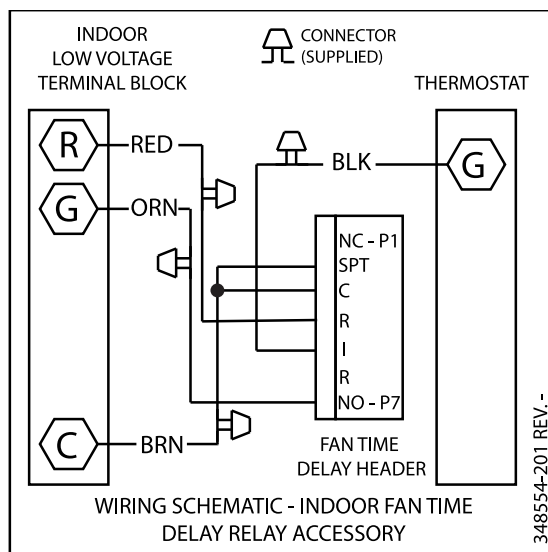

Fig. 1 – Typical Time-Delay Relay Wiring Connection
- Refer to Fig. 1 for wiring connections.
- Connect the red wire from the time-delay relay (R) to terminal R on the low-voltage terminal board in the coil or furnace.
- Splice the wire from the thermostat terminal G to the black wire (I) from the time-delay relay.
- Connect the orange wire from the time-delay relay (NO) to terminal G on the low-voltage terminal board.